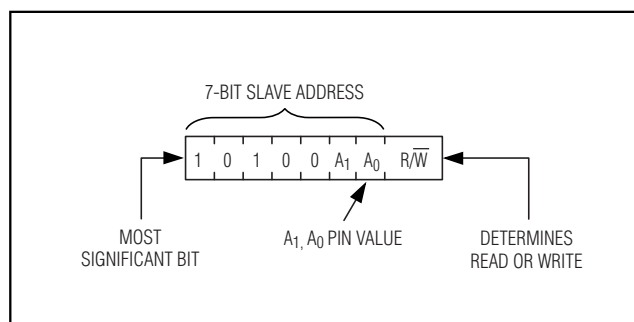

Figure 10. DS3882's Slave Address Byte
**Slave Address Byte:** Each slave on the I2C bus responds to a slave addressing byte sent immediately following a start condition. The slave address byte (Figure 10) contains the slave address in the most significant seven bits and the R/W bit in the least significant bit. The DS3882's slave address is 10100A1A0 (binary), where A0 and A1 are the values of the address pins (A0 and A1). The address pin allows the device to respond to one of four possible slave addresses. By writing the correct slave address with R/W = 0, the master indicates it will write data to the slave. If R/W = 1, the master will read data from the slave. If an incorrect slave address is written, the DS3882 will assume the master is communicating with another I2C device and ignore the communications until the next start condition is sent.